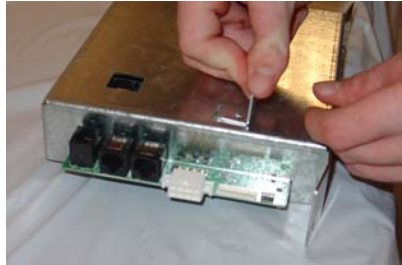

Figure 2-30. Install L-bracket.
14. Reinstall the L-bracket that was removed from replaced panel (Figure 2-30).